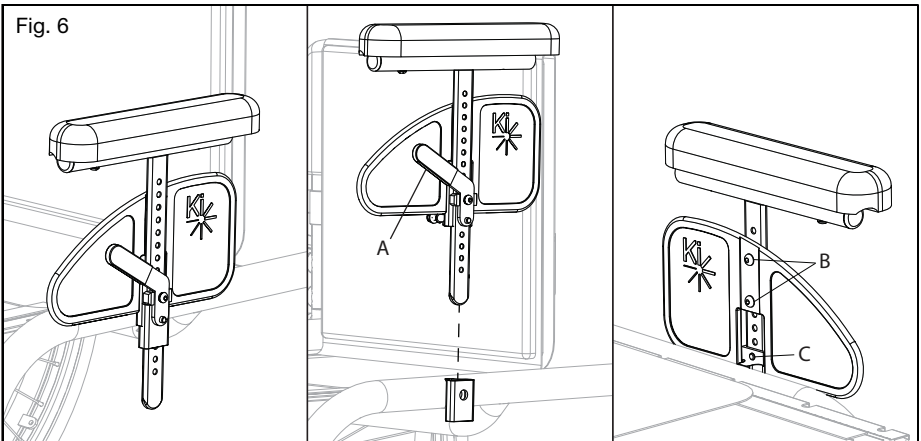

Fig. 6
- a. Slide the armrest into the receiver on the side frame. Ensure the pin in lever engages the receiver (Fig. 6).
- a. Push the lever (Fig. 6:A) in towards the side guard panel to release the pin from the receiver.
- b. Remove two 6mm screws from the side guards (Fig. 6:B).
- c. Remove M4 screw (Fig. 6:C) from the side guard post stop through the side guard post but do not remove entirely. The screw can stay in the lever assembly. Repeat on the other arm.
- d. Reset the post stop and the lever assembly on the side guard post to desired position. Retighten M4 screw (Fig. 6:C). Repeat on the other arm.
- e. Place the side guard in the desired position and replace two 6mm screws (Fig. 6:B) to secure the side guard in place. Tighten two 6mm screws. Repeat on the opposite arm.
- f. Replace the armrest assemblies into the receiver (Fig. 6).